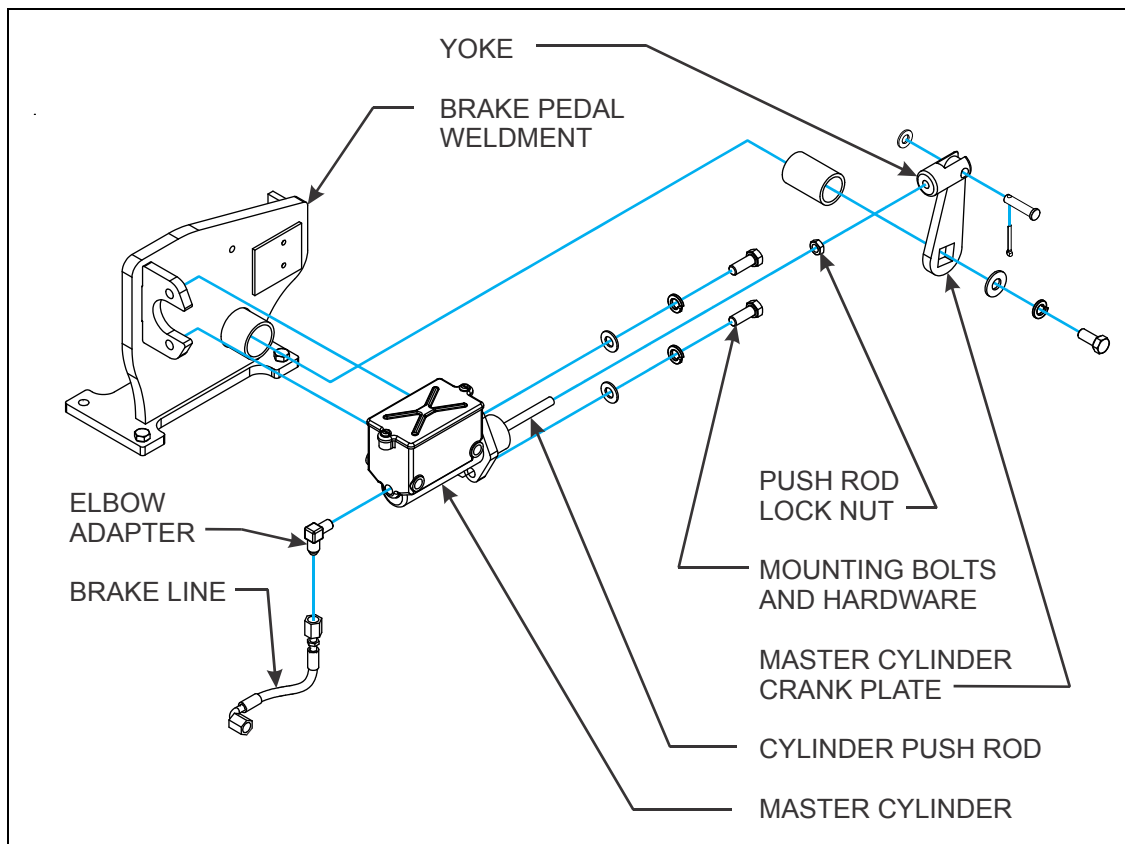

Figure 3-31: Cylinder Removal
7. Using a flare-nut wrench, disconnect the brake fluid line at the rear of the cylinder (See Figure 3-31).
9. Disassemble the yoke from the master cylinder crank plate (one 5/16-18 screw and hardware) (See Figure 3-31).